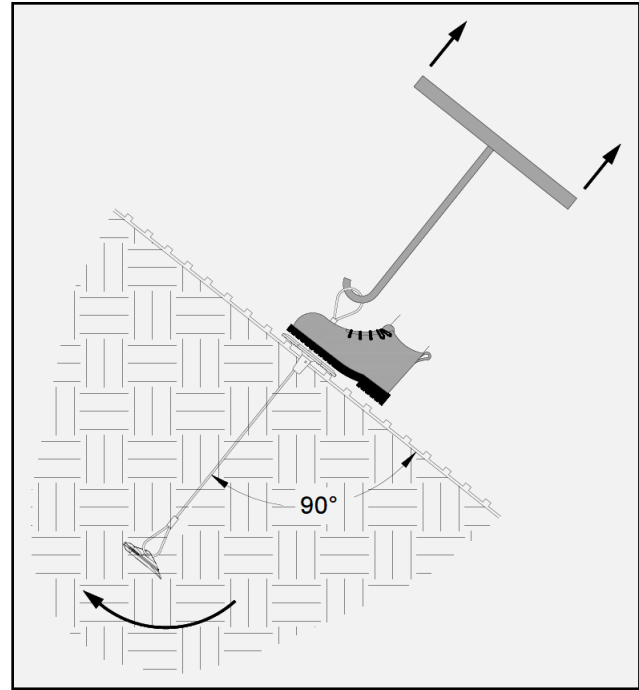

Figure 9: Use Setting Tool to Set Anchor
5. Once the plate is close to the slope surface, stand on the anchor plate and insert the setting tool into the loop at the top of the anchor tendon, keeping the anchor tendon perpendicular to the slope surface. (Figure 9) With gentle force, slowly start to pull upwards - away from the slope surface - causing the anchor tendon to start to move out of the ground (displace). During this step, the anchor head will turn in the ground - a process known as “anchor setting”. The change in embedment depth to set a Type B1 Anchor is approximately 2 inches. When the anchor is set, there will be a noticeable change in the amount of force needed to displace the anchor any further. This is a good indication that the anchor head is now perpendicular to the anchor tendon and the anchor is ready to be load-locked.